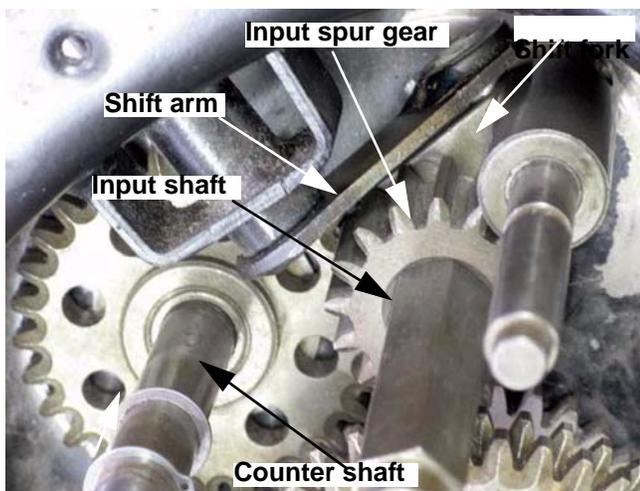

Figure 5.2
4. The bottom set of teeth on the input spur gear (turning **C**lock **W**ise) engages the bottom gear on the counter shaft. See Figure 5.2.